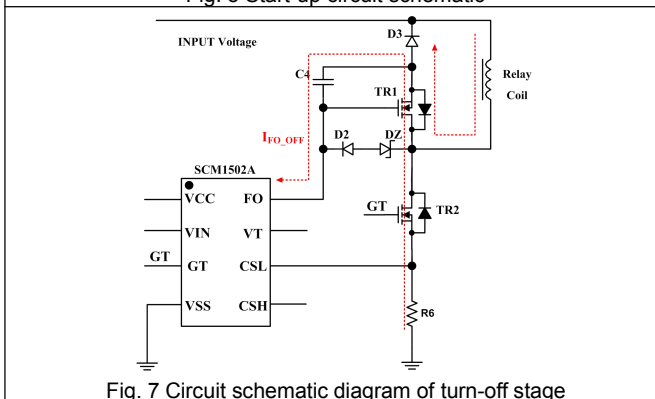

Fig. 7 Circuit schematic diagram of turn-off stage
(3) Figure 7, In the turn-off stage, see the circuit schematic of the shutdown phase. The MOS transistor TR2 is not turned on, and the FO will draw the current of the capacitor C4. The path of the current sinking  $I_{FO\_OFF}$  is as follows: the current of the C4 is drawn through the body diode of the MOS transistor TR2 and the MOS transistor TR1. At this time, the MOS transistor TR1 operates in the sub-threshold state, and the drain terminal voltage of the MOS transistor TR1 is relatively large, and the voltage value is  $V_{TH}+V_{DZ}$ , wherein  $V_{TH}$  is the conduction threshold voltage of TR1, and  $V_{DZ}$  is the voltage regulation value of the Zener diode DZ. At this time, the demagnetization voltage of the relay coil becomes large, the coil current is attenuated quickly, and finally the effect of fast turn-off is achieved.